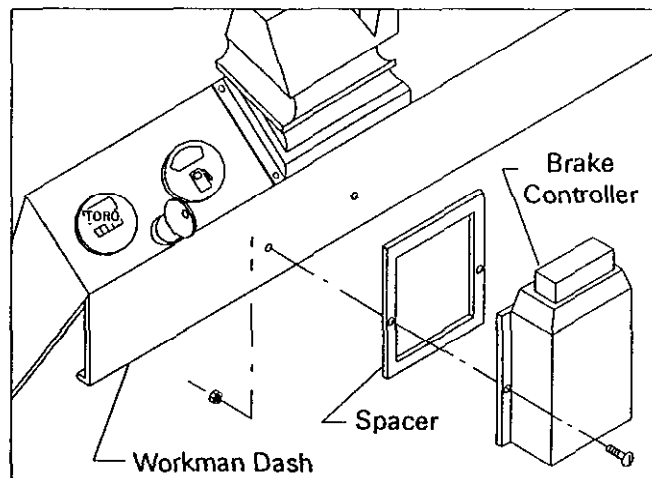

Figure 1
(Fig 1, 2 & 3)
1. Mount brake controller and (92-4526) spacer to dash panel below steering wheel using the two holes provided. (See Fig. 1)